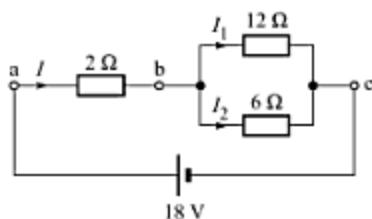

Fig. 2.34
8. Determine  $I$ ,  $I_1$ ,  $I_2$ ,  $V_{ab}$ , and  $V_{bc}$  in the network of Fig. 2.34.